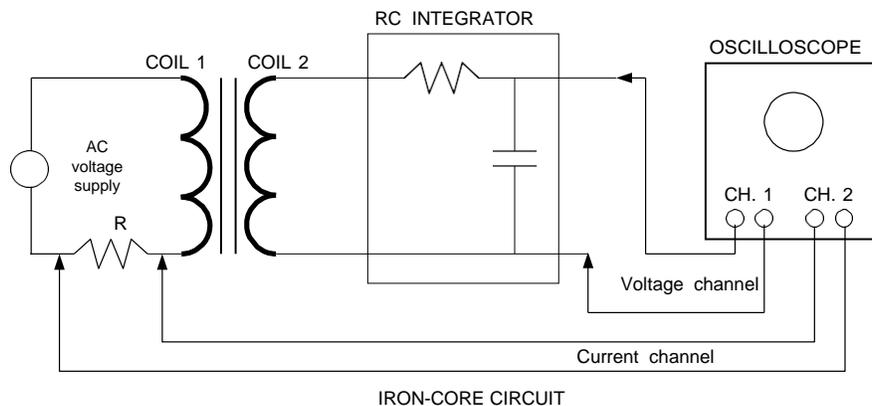

Figure 3.2
- (1) Connect the diagram shown Figure 3.2 with iron core.
- (2) Apply approximately 100 volts.
- (3) Repeat steps 4 and 5.